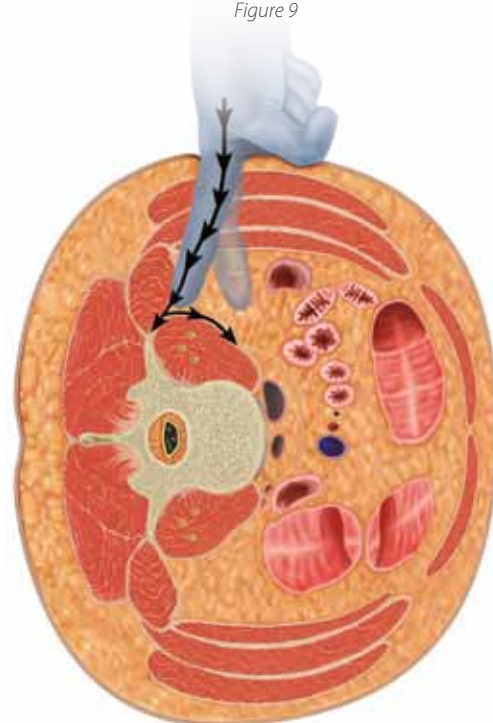

Figure 10
- Step 3** Once inside the retroperitoneal space, the index finger is used to follow the internal abdominal wall posteriorly down to the psoas muscle, which can be visualized. Use of the finger to sweep the peritoneal contents as well as the retroperitoneal fat anteriorly will allow a clear path down to the psoas muscle (Figure 10).